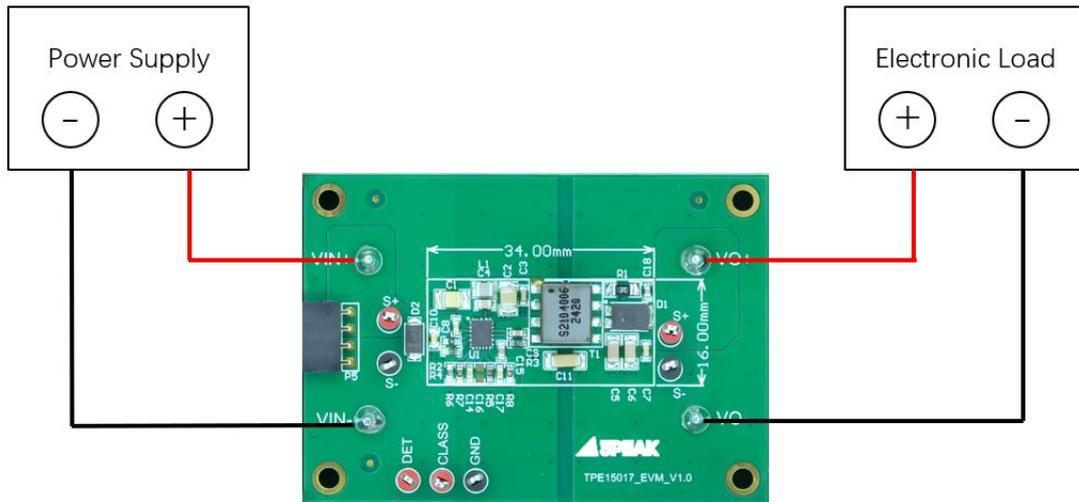

Fig.4 DC Source Supply Set-up
1. Figure 4 shows the connection method using a DC source supply set-up.